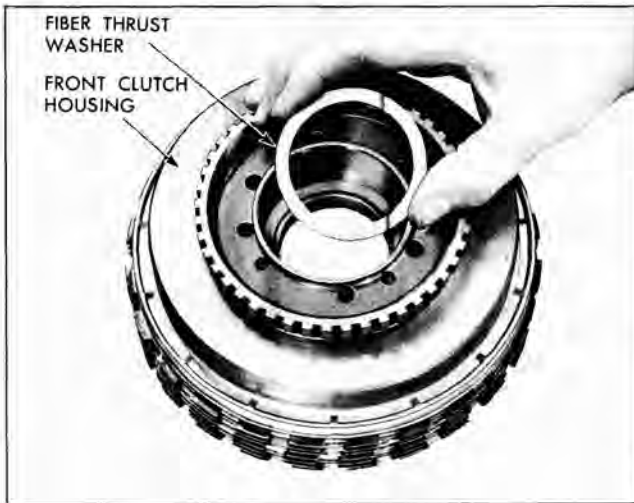

Fig. 81 Thrust Washer in Front Clutch Housing
1. Remove the thrust washer from the front clutch assembly if it has not been removed (Fig. 81).
10. Install thrust washer into recessed I.D. of front clutch housing bore using petroleum to retain (Fig. 81.)